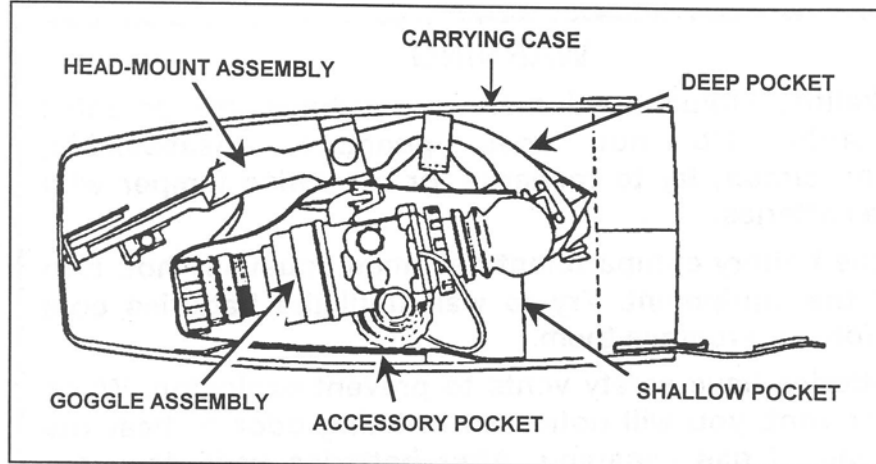

Figure 5. Stow goggles in carrying case.
- (1) Position the OFF-ON-PULL/IR switch to ON. Note the green glow that gradually appears in each eyepiece.
- (2) Pull the OFF-ON-PULL/IR knob. Rotate it clockwise to the IR position. Note the red light that appears in the left eyepiece, which indicates that the IR source is operating. The IR source is located on the left front of the goggles. Do not block the IR source when operating the goggles.
- (3) Turn the OFF-ON-PULL/IR switch counterclockwise to the OFF position. Note that the red light and green glow disappear.
- (4) Shut down the goggles by positioning the OFF-ON-PULL./IR switch to OFF.
5. Stow the goggles (Figure 5).